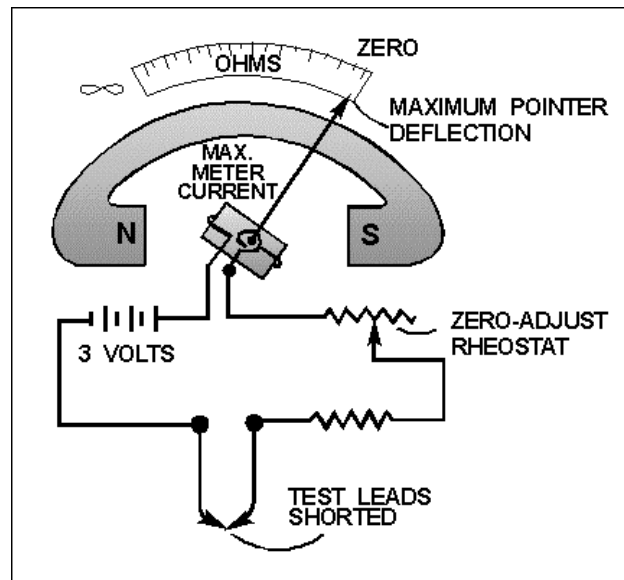

Figure 1-31.—A simple ohmmeter circuit.
3. A simple ohmmeter circuit is shown in figure 1-31.
The ohmmeter's pointer deflection is controlled by the amount of battery current passing through the moving coil. Before measuring the resistance of an unknown resistor or electrical circuit, the test leads of the ohmmeter are first shorted together, as shown in figure 1-31. With the leads shorted, the meter is calibrated for proper operation on the selected range. While the leads are shorted, meter current is maximum and the pointer deflects a maximum amount, somewhere near the zero position on the ohms